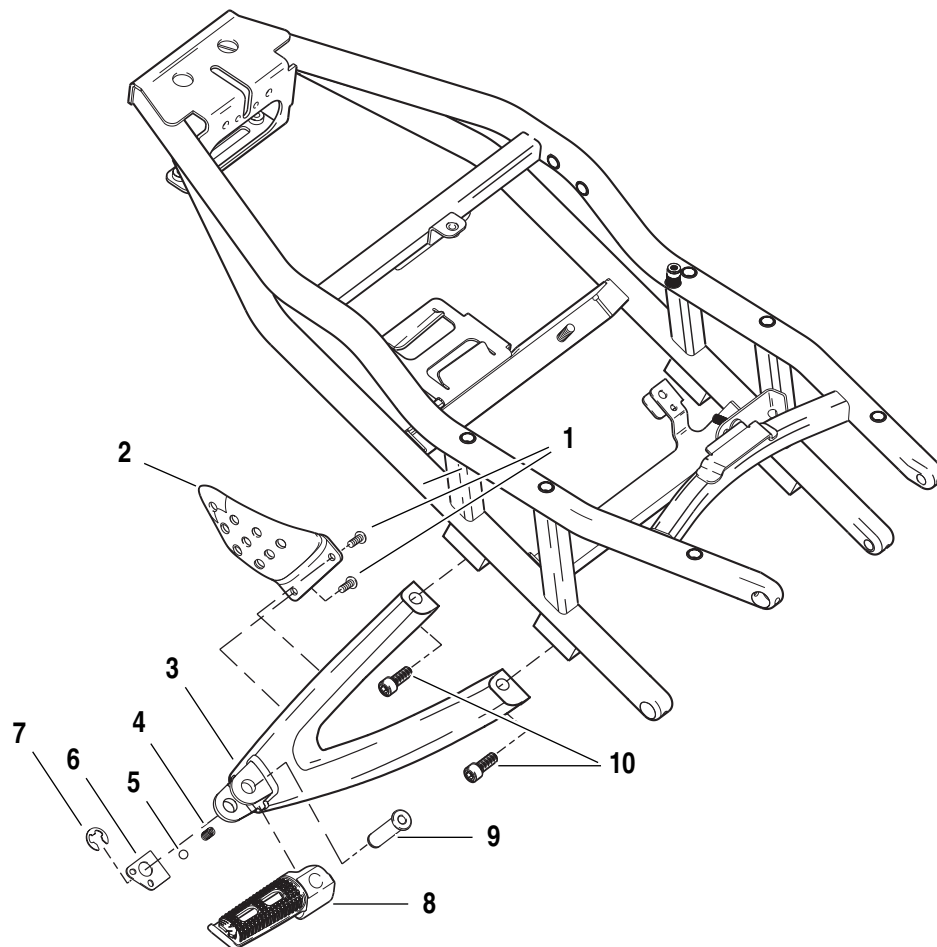

Figure 2-112. Passenger Footpeg, Mount and Heel Guard Assembly
1. See Figure 2-112. Remove clip (7).
2. Remove footpeg pin (9).
3. Remove footpeg (8), detent plate (6), ball (5) and spring (4).
1. See Figure 2-112. Remove heel guard fasteners (1).
2. Remove heel guard (2).
1. See Figure 2-112. Remove footpeg mount fasteners (10).
2. Remove footpeg mount (3).
1. See Figure 2-112. Position footpeg mount (3) onto sub-frame tail assembly.
2. Install footpeg mount (3). Using LOCTITE 272 tighten, fasteners (10) to 25-28 ft-lbs (34-38 Nm).
1. See Figure 2-112. Position heel guard (2) onto footpeg mounts (3).
2. Install heel guard (2).
1. See Figure 2-112. Position footpeg (8), detent plate (6), ball (5), and spring (4) on to footpeg mount (3).
2. Install footpeg pin (9).
3. Install clip (7).